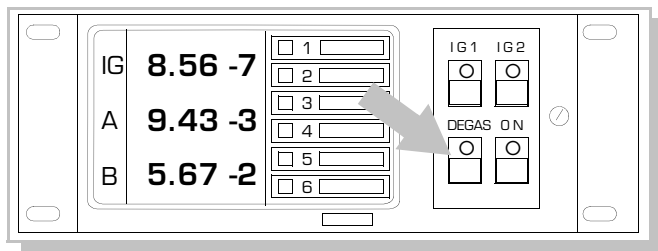

Figure 5-2 Control Unit Front Panel Showing DEGAS Button and LED Indicator.
5. To degas IG1 (IG1 must be on and the pressure within IG1 must be below 5×10^{-5} Torr), depress the DEGAS switch on the Control Unit (see Figure 5-2). When degassing with cathode 1 selected, both cathodes will operate in order to achieve full degas power and thorough cleaning of both cathodes.
6. When either cathode is nearing the end of its useful lifetime or is badly contaminated, the DEGAS switch LED indicator on the front panel will blink during degassing (see Figure 5-2). This is an indication that the cathode emission properties have deteriorated. This may be due to contamination which has temporarily “poisoned” the cathode coating, or to long term permanent erosion of the coating. If this condition does not disappear after a few days of operation at clean high vacuum or UHV, it is an indication that one or both cathodes are approaching their end of life. See Section 6.6 on page 6-6 for more discussion.